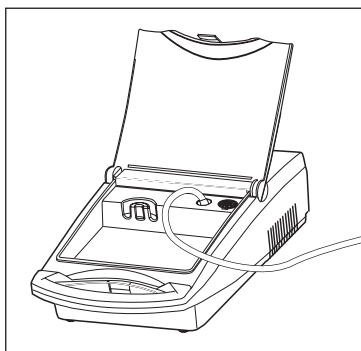

Figure 3/Figura 3
- Connect one end of the nebulizer tubing to the air-outlet connector **Figure 3**.